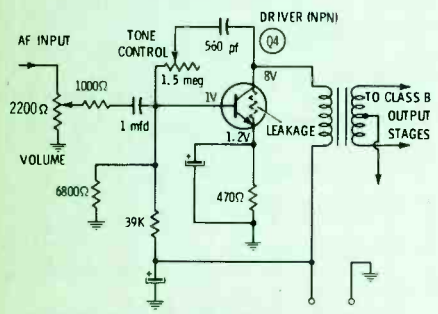

Fig. 3. Excessive transistor leakage in driver stage causes reverse bias.
Step 1: Connect radio to power supply (Fig. 3). Check current drain with volume down and the set tuned off station.